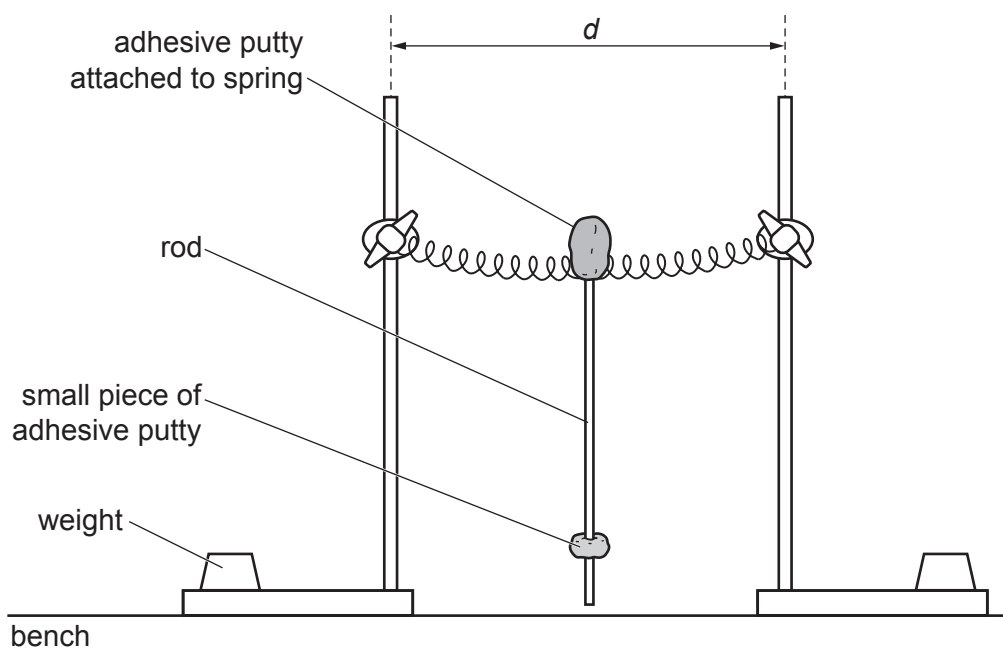

Fig. 4.1
1. The spring should be extended between the two bosses 26 cm apart and the larger mass of adhesive putty should then be moulded firmly around and into the central coils of the spring and shaped so that it is approximately cylindrical 2.5 cm wide and 5 cm in diameter, as shown in Fig. 4.1. The ends of the spring should be securely taped to the bosses to prevent it springing loose during the experiment.
2. The stands should be placed a distance $d = 26\text{ cm}$ apart, as shown in Fig. 4.1. To prevent the stands toppling, heavy weights should be placed at the ends of their bases and the bosses should be attached at a minimum height that is just sufficient to allow the rod to rotate freely in a forwards and backwards motion without hitting the bench.
3. A rod of length 40 cm should be pushed all the way through the adhesive putty attached to the spring. A 6 mm diameter wooden rod is suitable. The small piece of adhesive putty should be pressed into place around the rod to make a disc of approximate diameter 3 cm near to the bottom end of the rod, as shown in Fig. 4.1. It must be possible for candidates to adjust the position of the adhesive putty on the rod and for the adhesive putty to adhere to the rod without slipping.
The supervisor must ensure that the apparatus is in the configuration shown in Fig. 4.1, with the small piece of adhesive putty near the bottom of the rod.